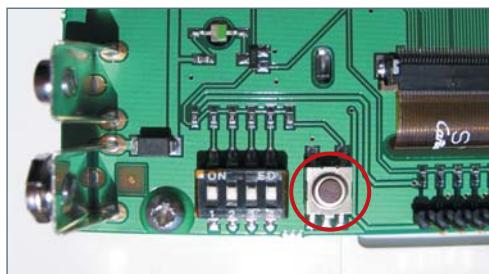

Fig. 1 – Remota™ push button
- Prior to any operation, identify the push button on the Remota™ PCB (fig.1).
- press the Remota™ push button (fig. 1) until the "APPRENTISSAGE" message is displayed on the screen and the orange indicator light starts flashing.
- press the Remota™ push button (fig.1) until the "APPRENTISSAGE" message is displayed on the screen and the orange indicator light starts flashing.